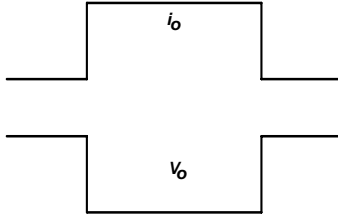
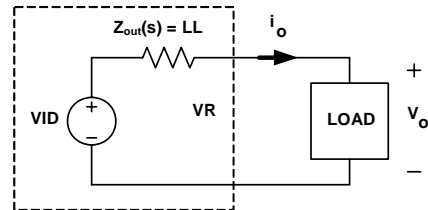

FIGURE 18. DESIRED LOAD TRANSIENT RESPONSE WAVEFORMS
FIGURE 24. VOLTAGE REGULATOR EQUIVALENT CIRCUIT
Assuming the compensator design is correct, Figure 18 shows the expected load transient response waveforms if C_n is correctly selected. When the load current I_{core} has a square change, the output voltage V_{core} also has a square response.
Figure 18 shows the desired load transient response waveforms. Figure 24 shows the equivalent circuit of a voltage regulator (VR) with the droop function. A VR is equivalent to a voltage source (= VID) and output impedance $Z_{out}(s)$. If $Z_{out}(s)$ is equal to the load line slope LL , i.e. constant output impedance, in the entire frequency range, V_o will have square response when I_o has a square change.